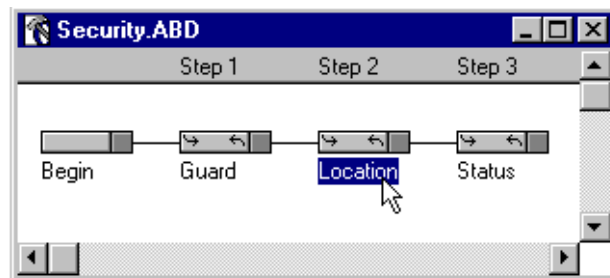

Figure 3-31 Select “Location” Handler
27. Click the “Location” Handler to select it (Figure 3-31).